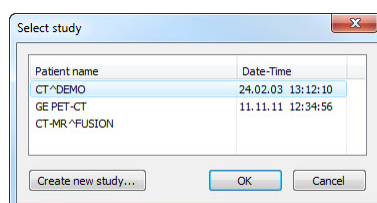

Figure 337 – Select study dialog
1. Select the existing study for the insertion of the new series from the studies list in the **Select study** dialog (see Figure 337).